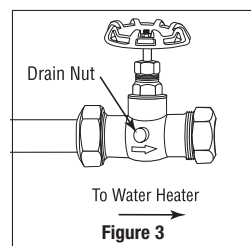

Figure 3
3. Using the valve compression fitting, attach the stop and waste valve on pipe (before the system on the cold water side) to the water heater, with indicator arrow pointing towards the AP430SS assembly, so that drain nut can be accessed to release pressure when changing cartridge. Be sure the drain nut is firmly tightened. (Figure 3)